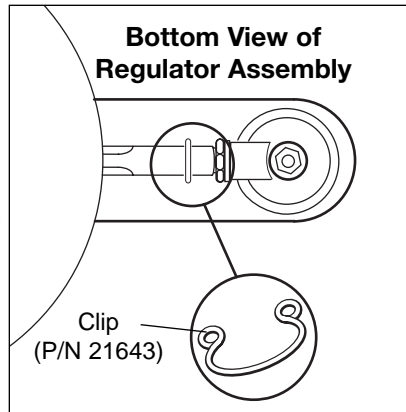

Figure 11
1. Turn the Grill Base upside down. Refer to Figure 11 and locate the clip that holds the venturi to the Regulator Assembly. Pull straight up on the clip and set it to the side.